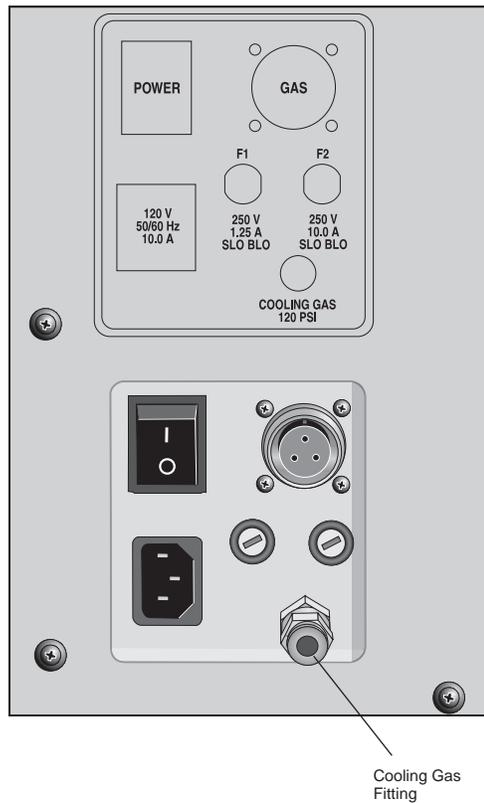

Figure 2.9
1. Locate the COOLING GAS fitting, a 1/4-inch compression fitting on the left side of the TGA cabinet back, marked with a 120 psig maximum warning label (Figure 2.9).